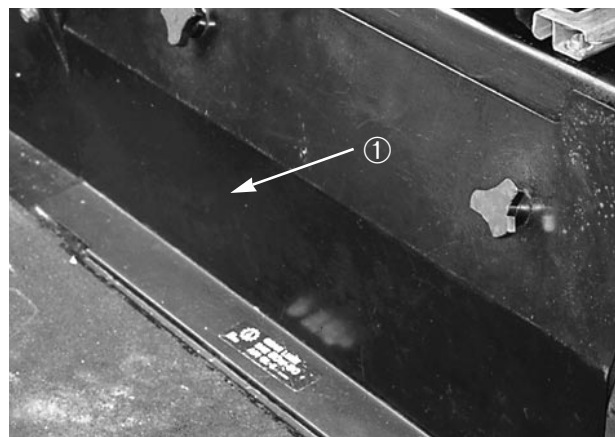

Figure 6
2. Remove access panel (Fig. 6), in front of the seat, to expose the front axle /dipstick.